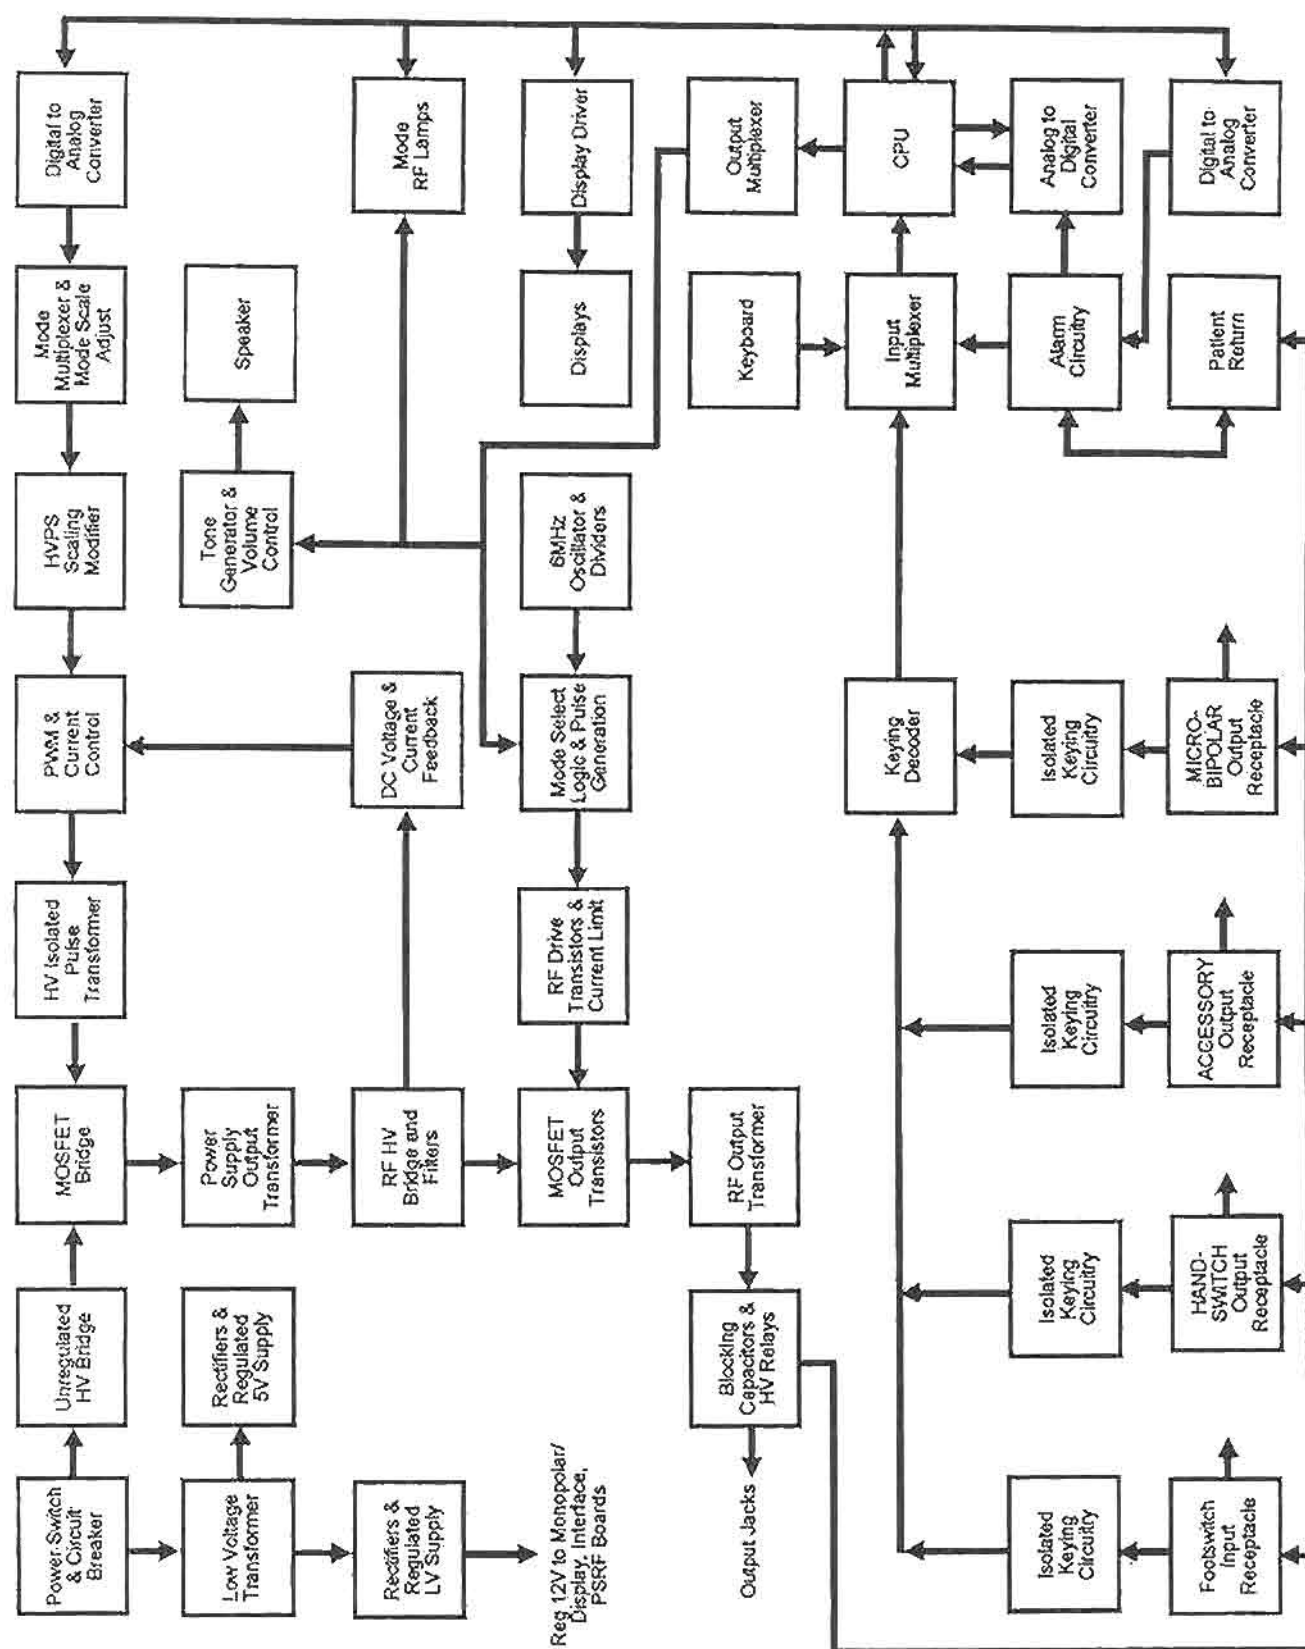

Figure 4-1. Block diagram.
b. The block diagram (fig 4-1) does not conform exactly to the PCB circuitry and is intended only to provide a basic operational description of the ES apparatus.